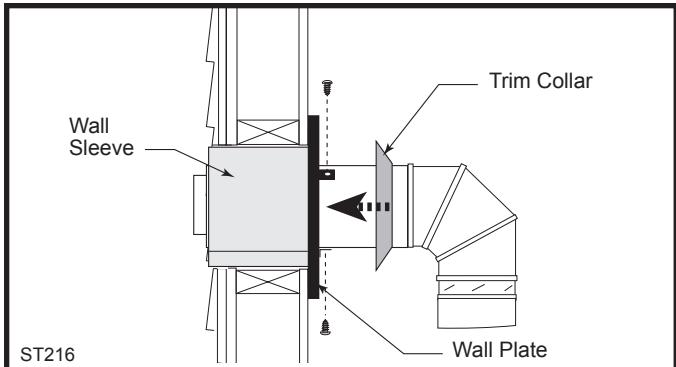

Fig. 27 Install the horizontal pipe and wall plate parts.
9. Seal the ends and connect the horizontal pipe to the elbow. Fasten the wall plate to the pipe with three sheet metal screws. Slide the trim collar up against the wall plate to cover the screws. (Fig. 27)